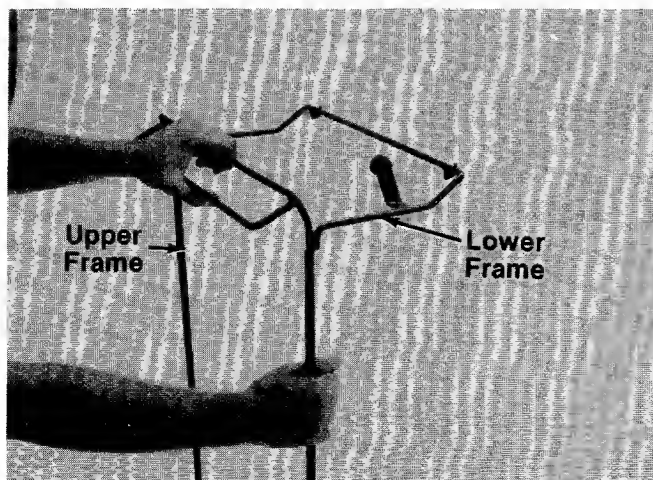

FIGURE 15.
1. Join the upper frame and lower frame assembly as shown in figure 15.